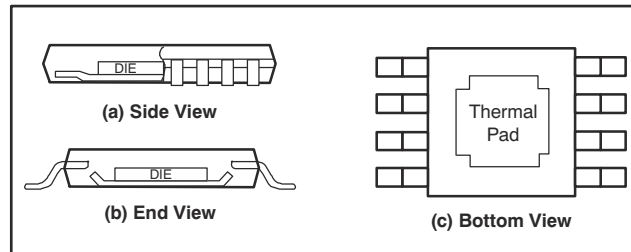

**Figure 8-4. PowerPAD Integrated Circuit Package PCB Etch and Via Pattern**
2. Prepare the printed circuit board (PCB) with a top-side etch pattern, as shown in Figure 8-4. Use etch for the leads as well as etch for the thermal pad.